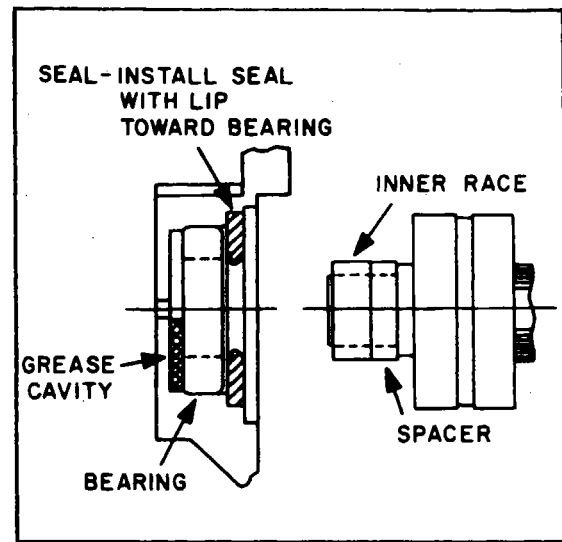

Figure 11-45. Slip Ring End Bearing Assembly
e. Install the slip ring end bearing and oil seal. Make sure the lip of the oil seal is toward the bearing and stake the seal in place. Correct assembly of bearing, seal, inner race and spacer is shown in Figure 11-45.